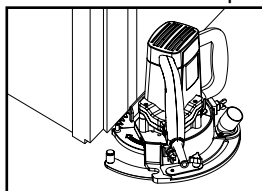

Fig. 11 - Undercutting door jamb
1. Door jamb moldings can be cut to allow the plank to fit underneath. (See figure 11.)